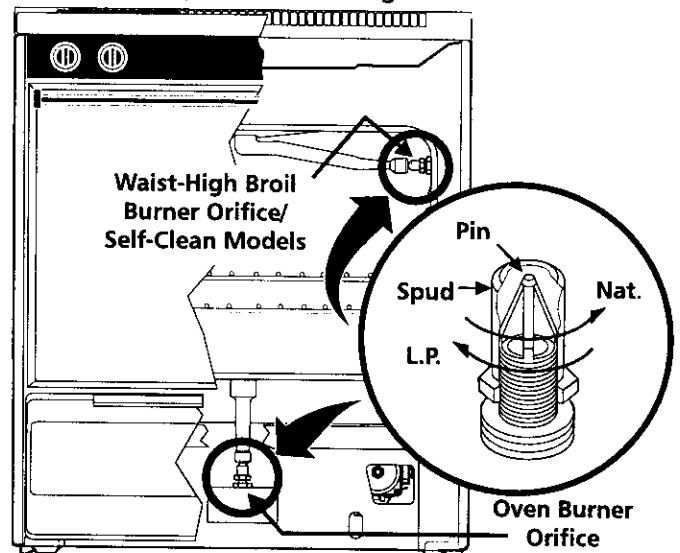

FIGURE 6
- Locate the oven burner spud shown in Figure 6.